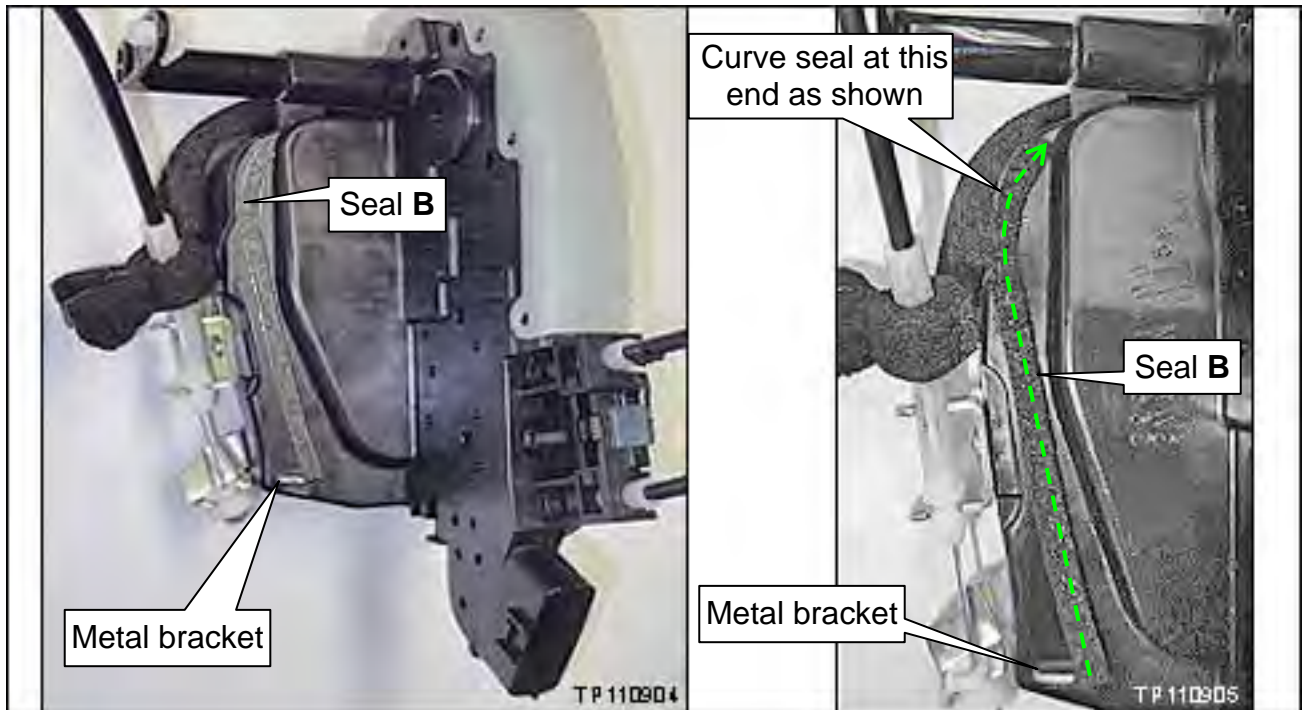

Figure 12
**NOTE:** Before beginning, it is recommend that you read all of seal **B**'s installation steps (1a through 1c) and examine Figure12.